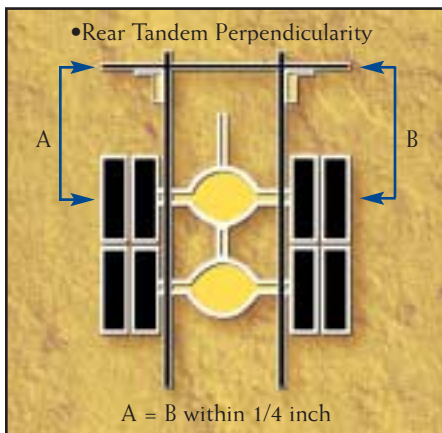

Figure 6.12
- Axles should be perpendicular to the chassis centerline within 1/8-inch measured between axle end and vehicle centerline. **Figure 6.12**